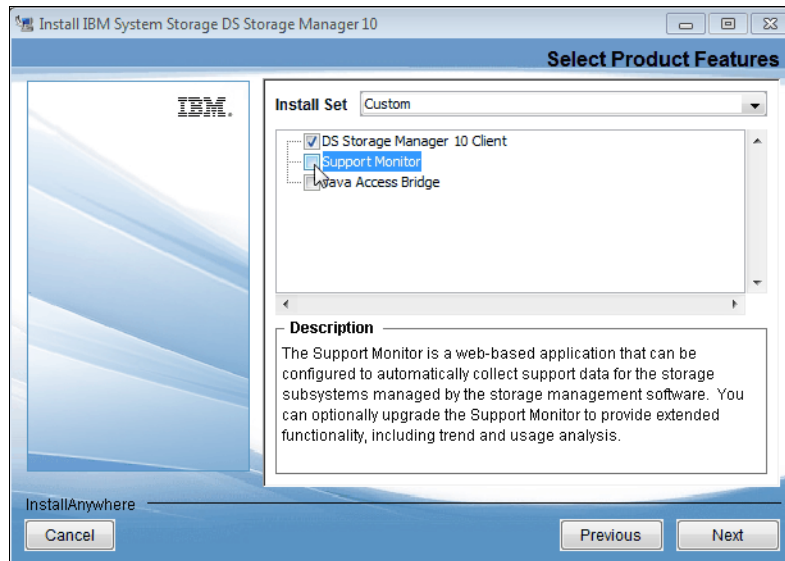

Figure 2-3 Selecting the Product Features
3. Uncheck **Support Monitor** and **Java Access Bridge** and click **Next** as shown in Figure 2-3.